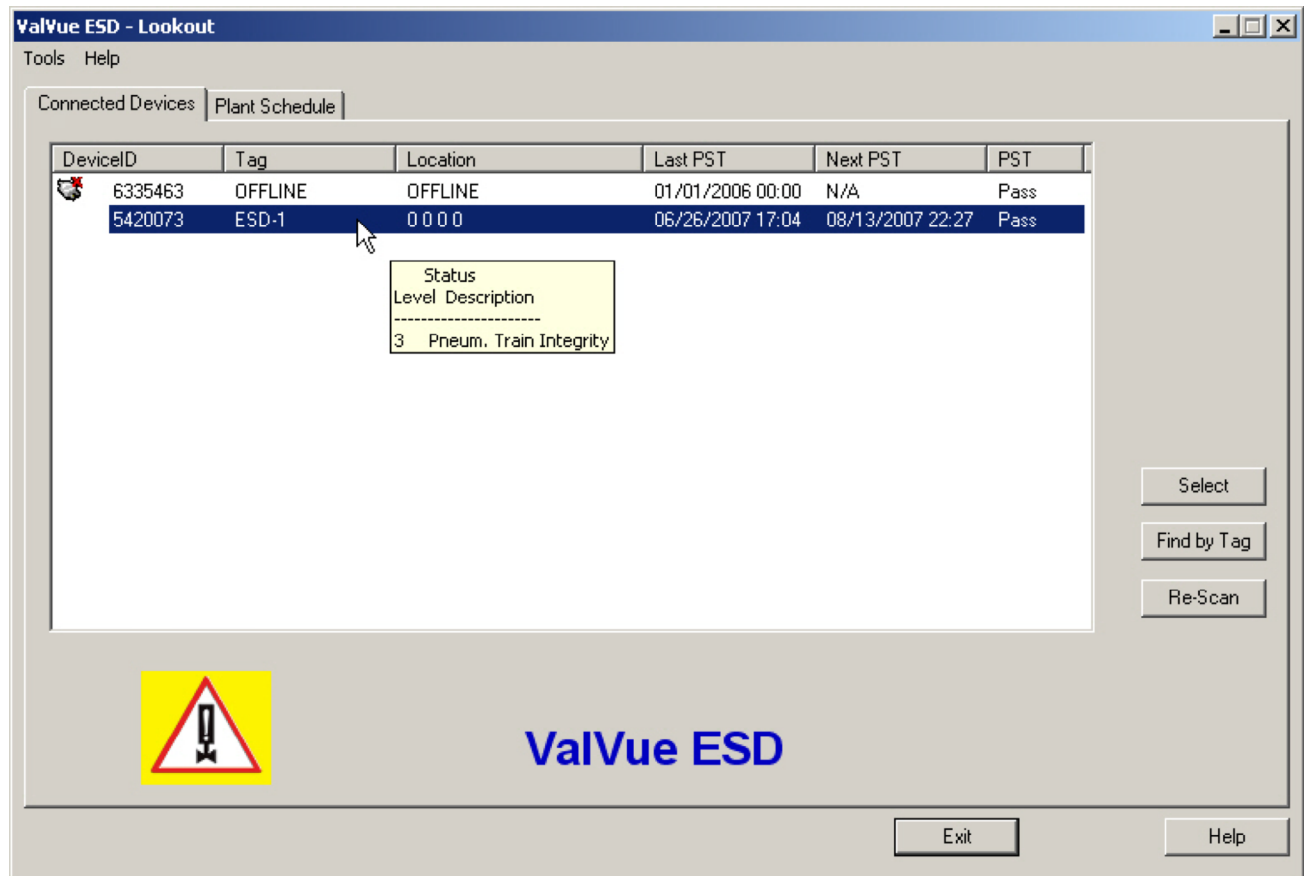

Figure 58 - Selecting a Connected Device
After you have successfully logged into ValVue ESD the software automatically scans the SIS (Safety Integrated System) for any devices that are connected to the system. The connected devices that are found during the scan appear as shown in Figure 58.
1. Click on the name of the device for activation (Figure 58).